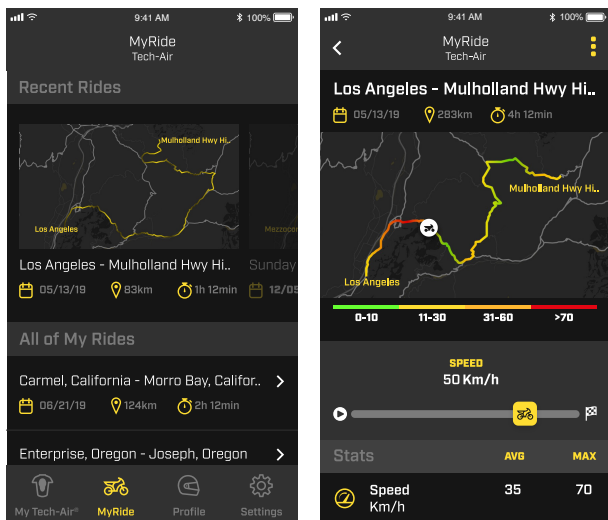

Figure 18: MyRide Function View
If the system is deployed and no Gas Inflator (9) is available, the App will notify the user by displaying the message "SYSTEM DEPLOYED," as shown in Figure 18.